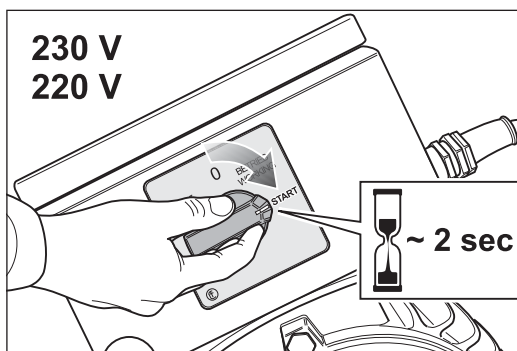

Fig. 23 To switch on the machine turn the switch button at the motor to position -START- and hold the switch button for around 2 seconds in this position.
- 2** To switch on the machine turn the switch button at the motor to position -START- and hold the switch button for around 2 seconds in this position (fig. 23).